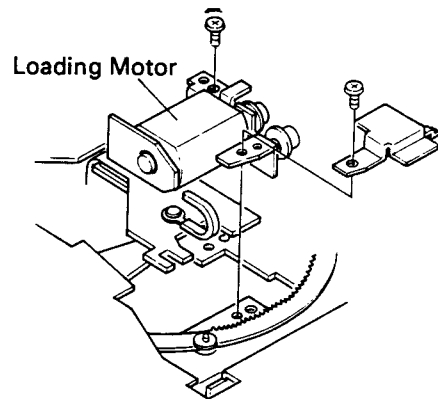

Fig. 15
1. Remove two screws and detach the loading motor. (Fig. 15)